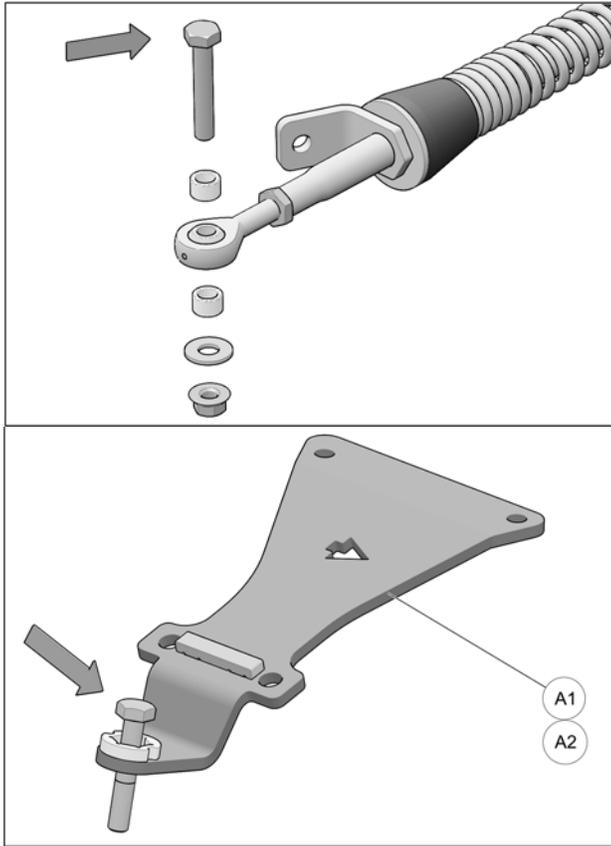

Fig. 23
13. Remove bolt, washer and bushings from front stabilizing rod end and insert bolt in front anchor bracket (A1-A2) as shown in Fig. 23